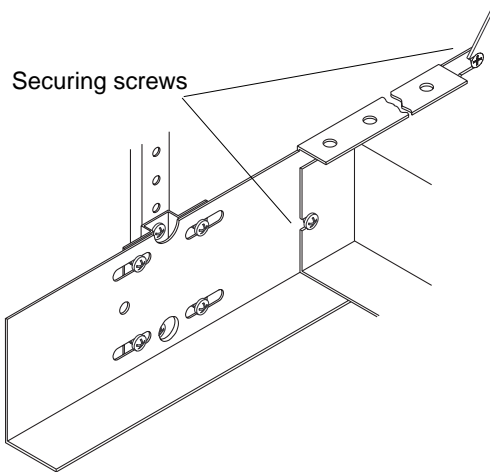

FIGURE 5-5 Loosening the Securing Screws (Back of Cabinet)
- 10. Loosen the four screws that secure the chassis to the mounting rails, two screws on each side at the back of the chassis (FIGURE 5-5).**